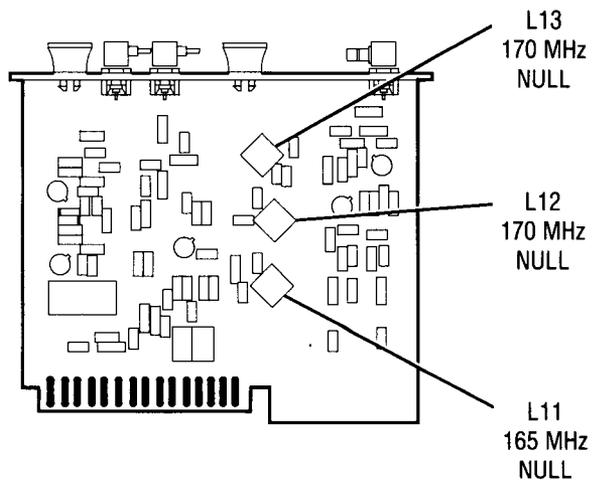

Figure 5-12. Location of PLL1 Adjustments
52. Adjust A36L7 and A36L8 (50 kHz NULL) to null the 50 kHz signal displayed on the spectrum analyzer. Refer to Figure 5-12 for location of adjustments.